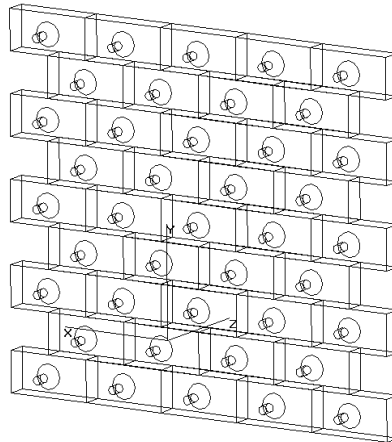

FIGURE 3.35 - Example of staggered rectangular tiles with conical "bump" geometry.
Staggered rectangular tiles are similar to rectangular tiles except that alternate rows of tiles are displaced by one-half the tile width, like brickwork. An example of staggered rectangular tiles with conical "bump" geometry is shown in Figure 3.35. You specify staggered rectangular tiles by their height and width. Note that for Constant (C) or Variable Rows (V) variation types, succeeding rows are staggered by half the tile width. For Parameterized (P) variation type, you must enter the stagger value with the use of the iRow variable in the Row Offset data entry point. Failure to do so, results in a non-staggered array of rectangles. This Row Offset value allows you to vary the stagger as a function of row number, in fact, it can be nonlinear dependent on the function that you enter for the Row Offset.